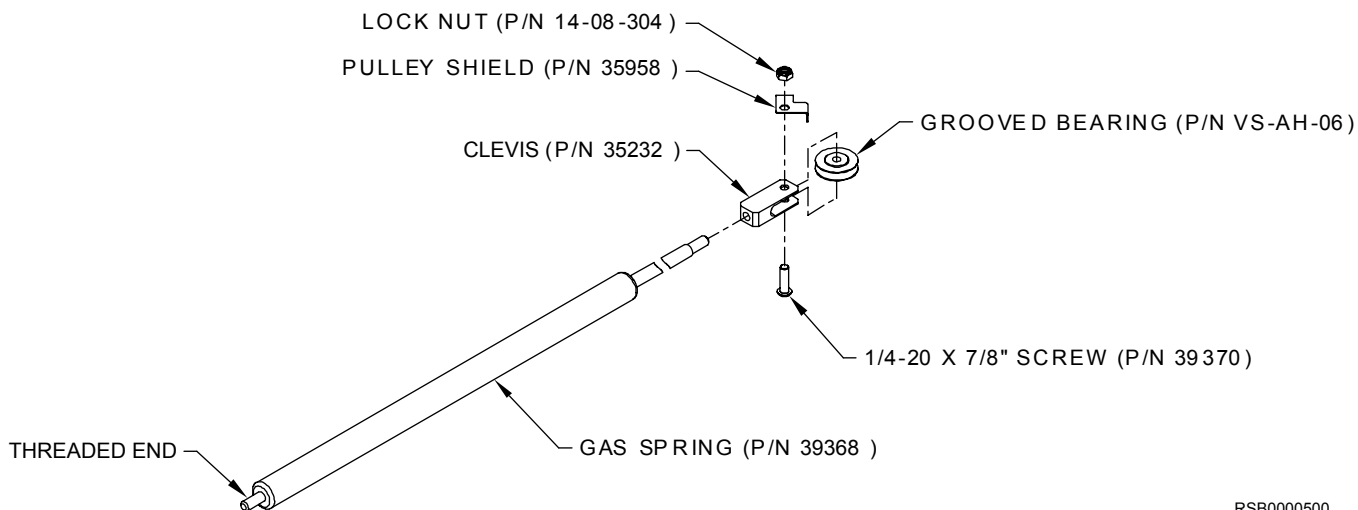

FIGURE 3-24
7. Refer to **Figure 3-24**. Install clevis (P/N 35232) onto gas spring (P/N 39368).
8. Refer to **Figure 3-24**. Assemble grooved bearing (P/N VS-AH-06), pulley shield (P/N 35958) and attaching parts onto clevis (P/N 35232). Do not tighten.